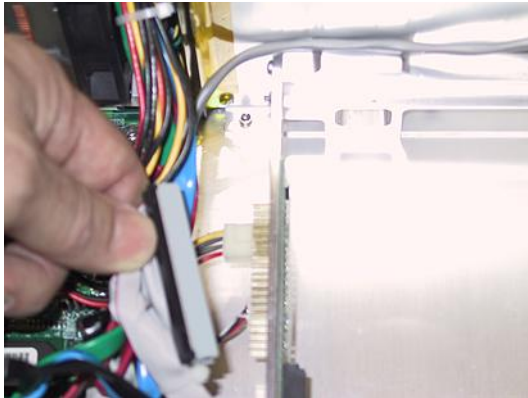

Figure 5-70
- 3) Remove the ATA cable (observing where the red stripe is for future reference) as illustrated in Figure 5-70.